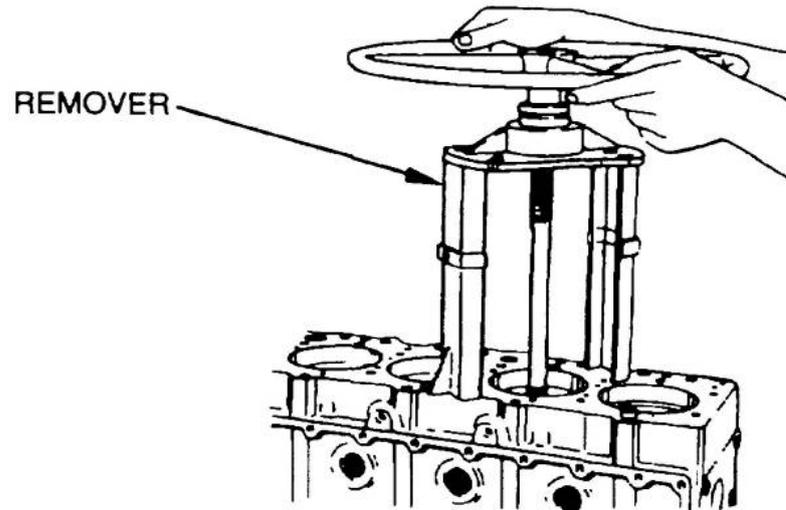

Figure 35 Removing the Cylinder Liners
- a. Position the cylinder liner remover, special tool 9-8523-1169-0, over the defective cylinder liner, ensuring that the tool is squarely seated and firmly supported on the engine block. Install the foot (ankle) of special tool 9-8523-2557-0 onto the leg of the remover, ensuring that the foot is correctly positioned on the liner. Operate the cylinder liner remover and withdraw the liner from the engine block (Figure 35). Remove other cylinder liners as necessary, in the same manner.